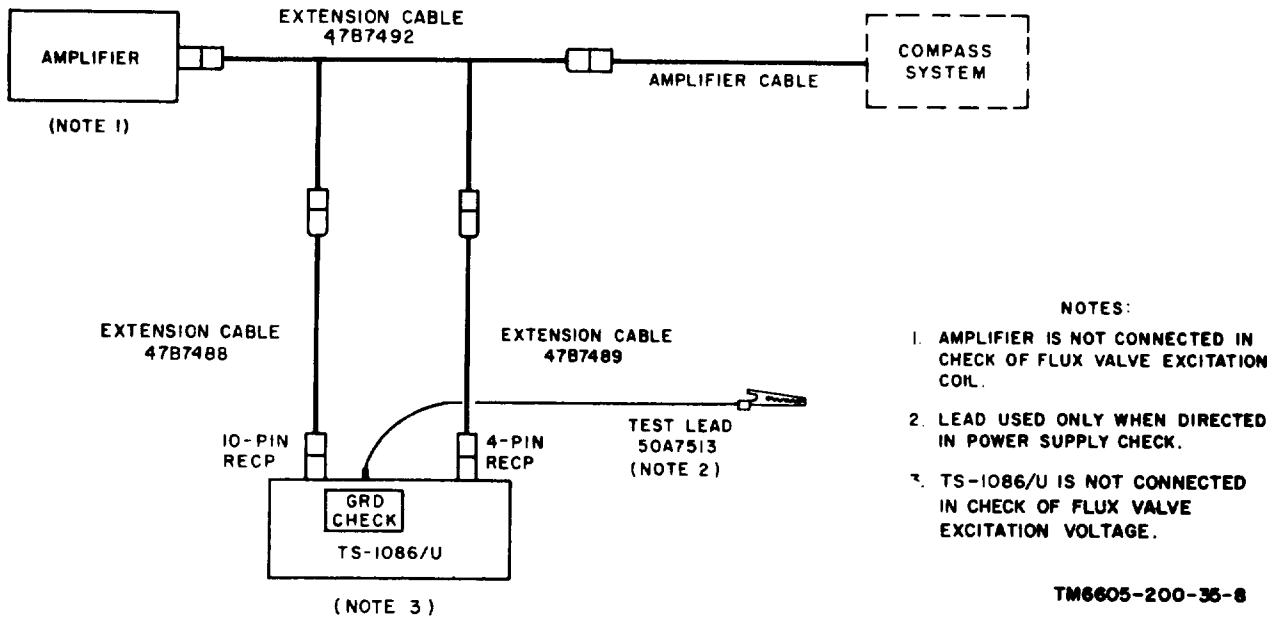

Figure 17. Test setup for operational power and flux valve checks.
- (1) Connect the test setup as shown in figure 17. The amplifier cable remains fixed to the compass system junction box terminals.
- (2) Operate switch 1 on the TS-1086/U to the POWER CHECK position, and switch 5 to the AB position.
- (3) Apply power to the compass system. The frequency meter on the TS-1086/U should indicate  $400 \pm 40$  cycles per second (cps), and the voltmeter should indicate  $115 \pm 10$  volts ac on the lower scale.
- (4) Repeat (2) above for the BC and AC positions of switch 5.
- (5) With switch 5 in the AC position, the ABC lamp should light; if the CBA lamp lights, phase rotation of the ac input voltage is incorrect.
- (6) To check the system ground connection, operate switch 1 to the GRD CHECK position. "Connect test lead 50A7513 to the A-phase ground (aircraft structure). The ABC lamp should not light. If the ABC lamp lights, the A-phase lead is not grounded. Disregard the CBA lamp for this check.
- (7) Operate switch 5 to the 28V D. C. position. The voltmeter should indicate  $27 \pm 0.5$  volts dc on the lower scale. Remove power from the compass system and reconnect the cables for normal operation.
- (1) Connect extension cable 47B7492 as shown in figure 17. The gyro unit cable remains fixed to the compass system junction box terminals. Do not connect the TS-1086/U for this check.
- (2) Place a temporary jumper wire between pins D and I of the loose 10-pin connector plug on extension cable 47B7492.
- (3) Apply power to the compass system.
- (4) Use the TS-505/U to measure the voltage between either pin D or pin I of the loose 10-pin connector plug and pin A of the loose 4-pin connector plug on extension cable 47B7492. The voltage should be  $23.5 \pm 5$  volts ac.
- (5) Remove power from the compass system and reconnect the cables for normal operation.
- (1) Connect the equipment as shown in figure 17. Do not connect the amplifier for this check.
- (2) Apply power to the compass system.
- (3) Operate switch 1 on the TS-1086/U to the FLUX VALVE CHECK position and switch 3 to the CALIBRATE position.
- (4) Operate rheostat 4 to the OFF position, and rotate the ADJ stop under the rheostat knob counterclockwise until it stops on the knob.
- (5) Turn rheostat 4 until the pointer of the voltmeter on the TS-1086/U indicates full-scale deflection.
- (6) Operate rheostat 4 to the OFF position; be careful to leave the ADJ stop in the position established in (4) above.
- (7) Operate switch 3 to the EXCITER position, and rheostat 4 against the ADJ stop. The voltmeter indication must fall within the EXCITER range on the upper scale.
- (8) Return rheostat 4 to the OFF position and continue with the check in *b* below.